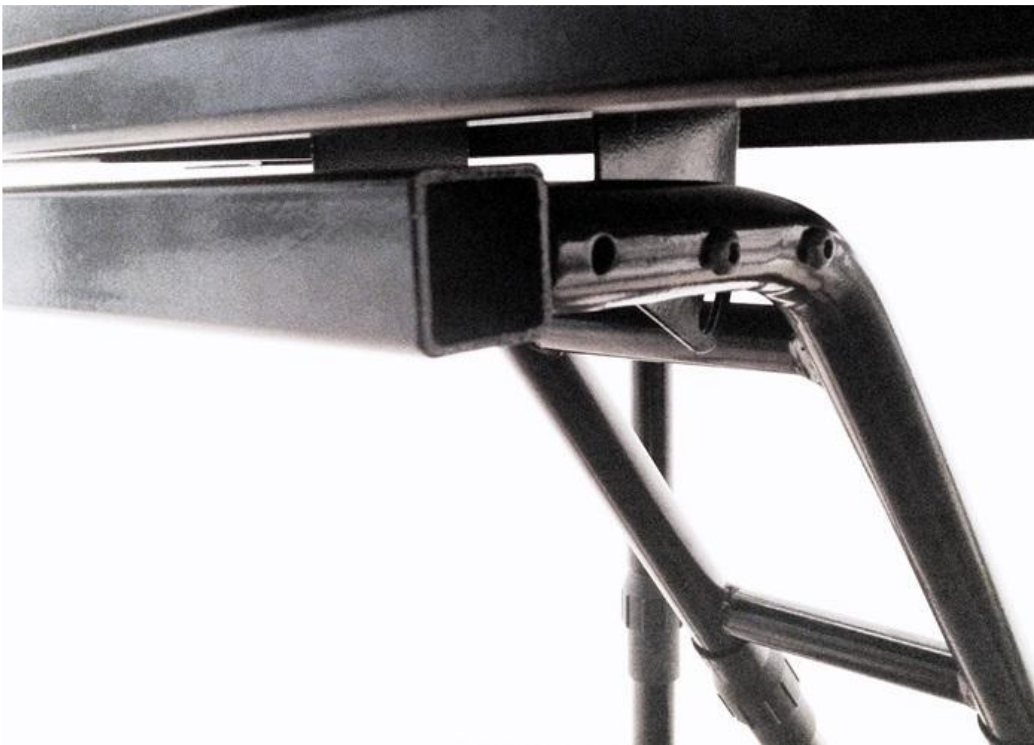

FIGURE 4: ATTACHING TABLE TO SUPPORT STRUCTURE
Attach the avionics table to the support structure with four (4) M6*35mm Button Head Machine Screws (No. 9) and four (4) M6 Self-Locking Nuts (No. 4). Note that there are two positions (as shown in **FIGURE 4**) in which the table can be mounted depending on whether you want the table closer or farther away from you. Ensure that the row of holes drilled along the top edge of the table is facing towards the seat. These holes are pre-drilled for attaching the Volair Sim Avionics Panel, Logitech (Saitek) Pro Flight Yoke, Logitech Steering Wheel, Thrustmaster T500RS Steering Wheel, and Logitech (Saitek) Pro Flight Accessories (on left and right sides of the yoke) to table.